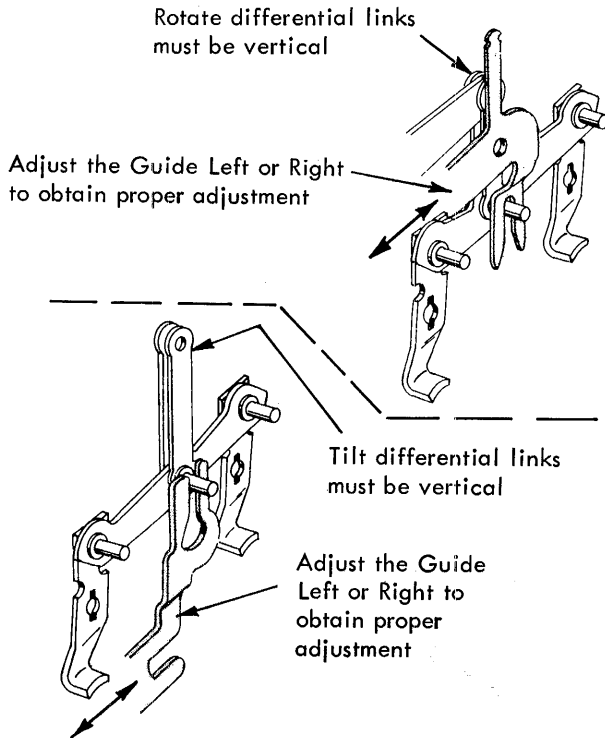

FIGURE 14. Selector Latch Guides
- a. The rotate differential guide should be adjusted left or right so that the vertical links of the system hang in a true vertical position (Fig. 14).